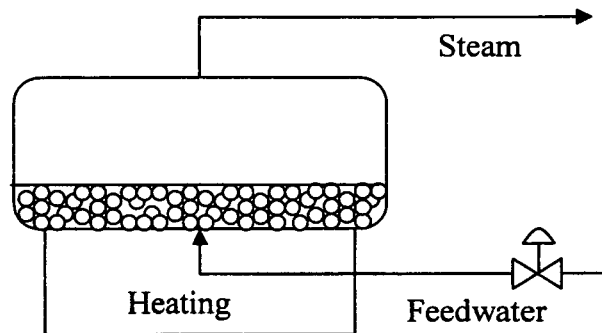

Figure 7. Schematic diagram of a drum boiler process
- iii) Consider the process given in Figure 7. The drum boiler is typically used for producing steam as a plant utility. The boiler contains boiling liquid, vapour bubbles and steam. The level of non-gaseous liquid material accumulated in the drum is the key variable of interest desired to be kept under control. The observed level of material in the drum is due to both the liquid and the entrainer vapour bubbles that, because of their higher specific volumes, rise through the boiling liquid and temporarily "settle" on the boiling liquid surface.